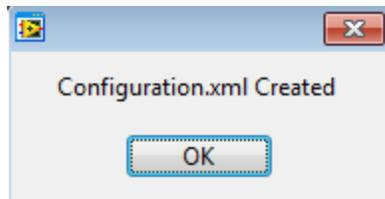
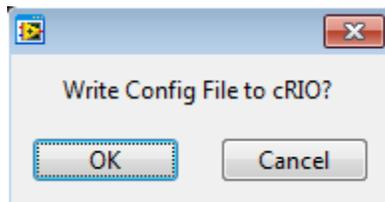

Figure 3. Pop up window that confirms that the configuration file has been successfully written
Figure 4. Pup up window asking if the configuration file should be written to the cRIO.
See Appendix A Figure 3 “Lid and Connectors” for the location of the power connector on the enclosure lid. There is only 2 pin connector on the enclosure and is on the side with 8 right angular circular connectors.
- The MOIS Configuration File Generator automatically generates the configuration file and provides you with the option to upload the file to the cRIO. Once all of the custom configurations have been specified, click on the *Build Configuration File* button which is located on the lower right of the window. When clicked, the dialog box shown in Figure 3 should appear. When OK is clicked, another dialog box shown in Figure 4 should appear which provides the option to upload the configuration file to the cRIO. Click OK to upload the file and Cancel to abort the upload. The Configuration.xml is still created, even if Cancel is chosen.